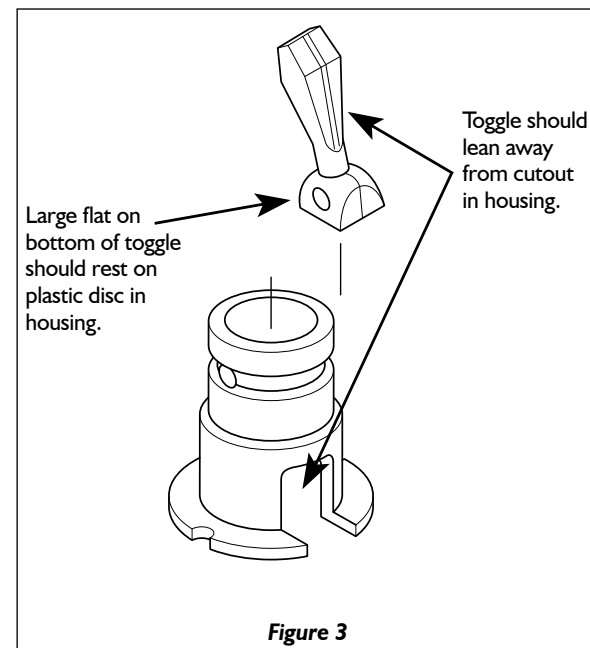

Figure 3
6. Place the toggle (PN 6049) on the disc. The toggle must be oriented as shown in Figure 3 in order to ensure proper operation.